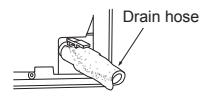
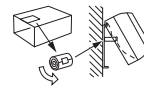

Fig. 4
Fig. 5
- Insert the drain hose fully into the drain pan at the rear right of the indoor unit. (Fig. 4)
- Insert the drain hose into wall hole sleeve (C), and hook the upper part of indoor unit on installation plate (1). Then, move the indoor unit completely to the left in order to make placing the piping in the back space of the unit easier.
- Cut out a piece of cardboard from the shipping box, roll it up, hook it onto the back rib, and use it as a spacer to lift the indoor unit. (Fig. 5)
- Connect the refrigerant piping with the extension pipe (B).
- Thrust the lower part of the indoor unit into the installation plate (1).